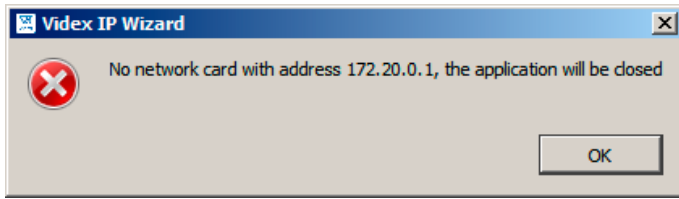

Fig. 43 No network card with address 172.20.0.1...
- If you receive the message as shown in Fig. 43 it means you must setup the network card first, please follow the directions on page 32 to properly set the network card.